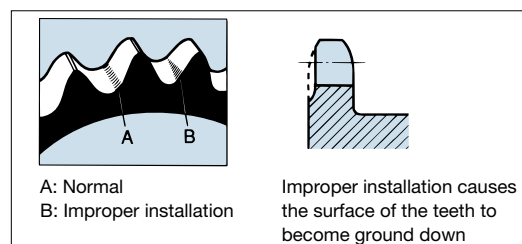

Fig. 29 Contact area of the sprocket teeth
- 5-1. Chain and sprocket engagement can be checked by observing the roller and teeth surface. Proper engagement is when the contact area is uniform with point A in Fig. 29. If the contact area is lopsided or the sides of the teeth are wearing away (point B), this may have been caused from improper installation of the sprockets or twisting of the roller chain. In this case, rechecking/readjustment is necessary.
- 5-2. The normal point of impact is slightly up from the tooth root. As shown in Fig. 29, point A receives the strongest impact. However, when initial tension is applied to the chain and tension remains on the slack side, the roller will slightly touch the tooth root.